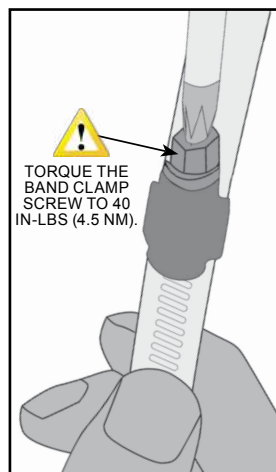

Figure 6: Band clamp screw torque
6. Torque the band clamp screw to 40 in-lbs (4.5 Nm). See Figure 6.